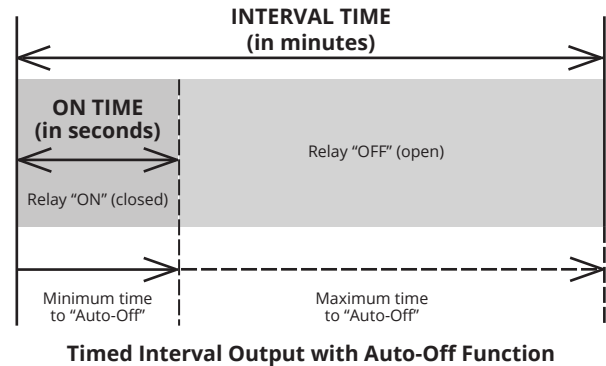

Figure 6.3
**NOTE:** When using both the AUTO (Auto Off) setting and TIME R (Timed Interval) settings, the Auto Off delay must be greater than the ON SEC (On Time) setting (See Figure 6.3). If Auto-Off is less than On Time, the MDI and the server sensor power transistor will both turn off at Auto-Off. In other words, the MDI cannot shut off and leave the server sensor power transistor on.